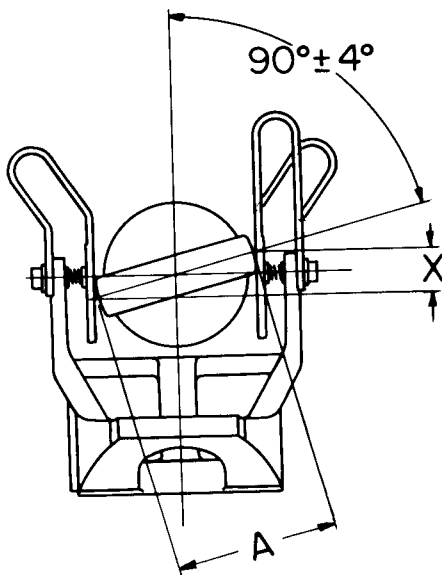

Fig. 7. End view showing blade contact angle
Fig. 7 shows blade in closed position. The allowable difference in elevation from one side of the blade contact to the other (dimension X) is  $1/16''$  for each  $1''$  of contact width (A) is  $3''$ , then dimension (X) can be as much as  $3/16''$  and still be within the plus or minus  $4^\circ$  tolerance.
Also, Fig. 7 shows blade contact high on the right and low on the left. The reverse is also acceptable, high on the left and low on the right. It is common to have both situations on one three-pole switch. In fact, after all three poles have been adjusted in the open position, and then closed, you may find one pole will be high on the right, one fairly level and one high on the left. This is due to many variables and tolerances plus the free play or clearance in pin connections of all the switches and control parts.